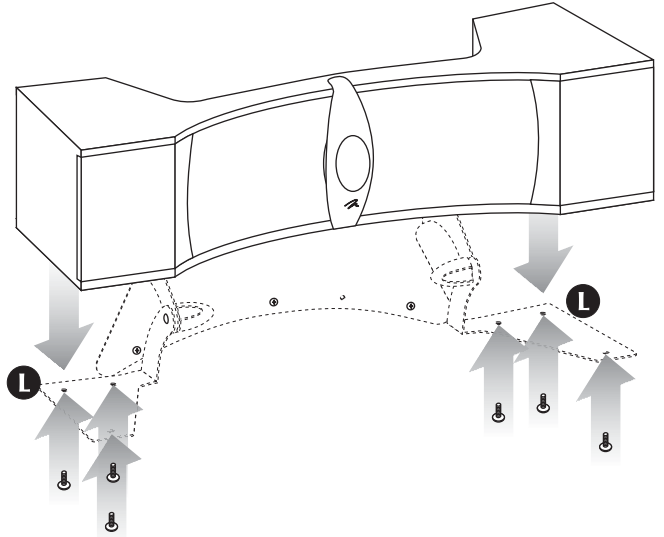

Figure 15. Attach the Cinema i to the brackets.
- 13 Set the Cinema i on the brackets and continue to support the speaker. By hand, thread the $\frac{5}{32}$ " button head Allen screws into the front 2 threaded inserts that are closest to the woofers. Next, thread in the 4 remaining screws. Tighten each screw with the $\frac{5}{32}$ " Allen wrench (figure 15, step L).